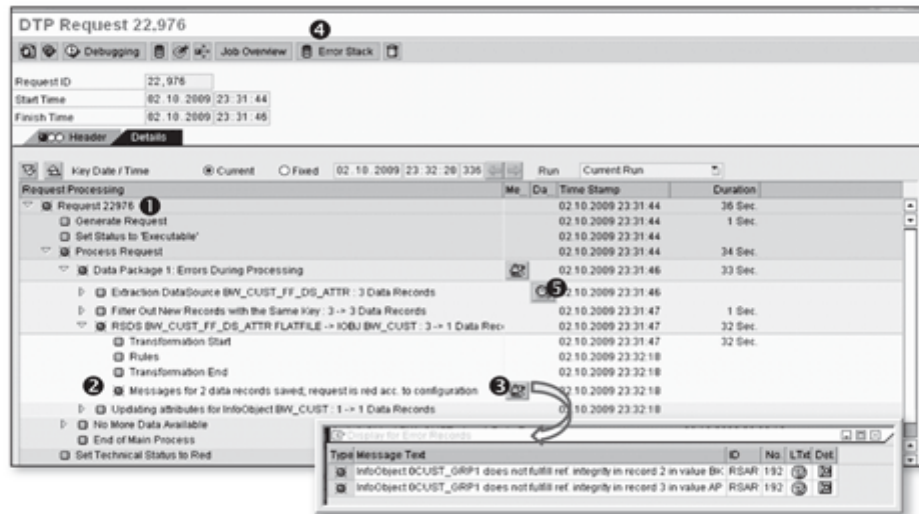

Figure 7.82 Error During Loading
Now execute DTP and start the DTP monitor. This time, DTP is unsuccessful, which is indicated by the red status in ❶ of Figure 7.82 (the load failed because the BK and AP values aren't loaded as part of the Customer GRP1 master data). As shown in ❷, the displayed message indicates that loading has encountered an error. (You can see the detailed message by clicking on the icon shown in ❸.)
To view records in temporary storage, click on the icon shown in 8 Figure 7.82. The result of this action is the Display Temporary Storage screen shown in Figure 7.84. Each record has a status (1); 1 indicates that the record has no errors, and 2 indicates that the record is erroneous and stored in the error stack.